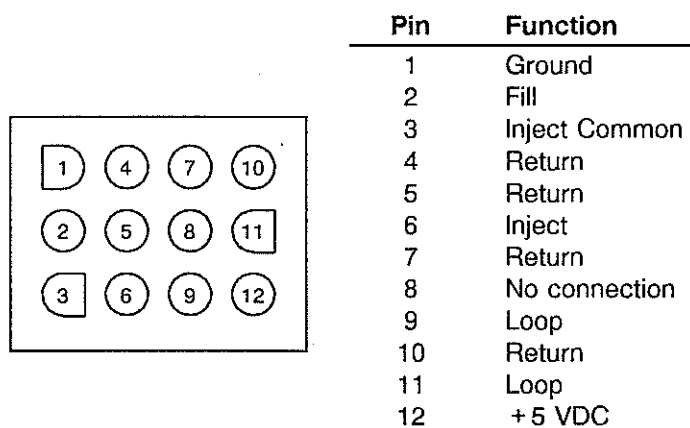
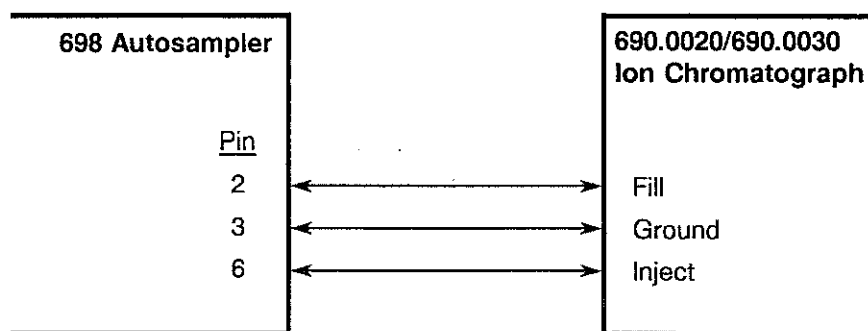

Fig. 10: Pin assignments for the valve connector
Fig. 11: Injector valve interface
The VALVE connector (13) is used to interface the 698 Autosampler to the electrically operated injection valve of the 690.0020 or 690.0030 Ion Chromatograph by means of the 6.2128.030 connecting cable. Fig. 10 illustrates the VALVE connector and its pin assignments. The interface between the 698 Autosampler and the Valco two-position actuator of the 690.0020 or 690.0030 Ion Chromatograph is shown schematically in Fig. 11.